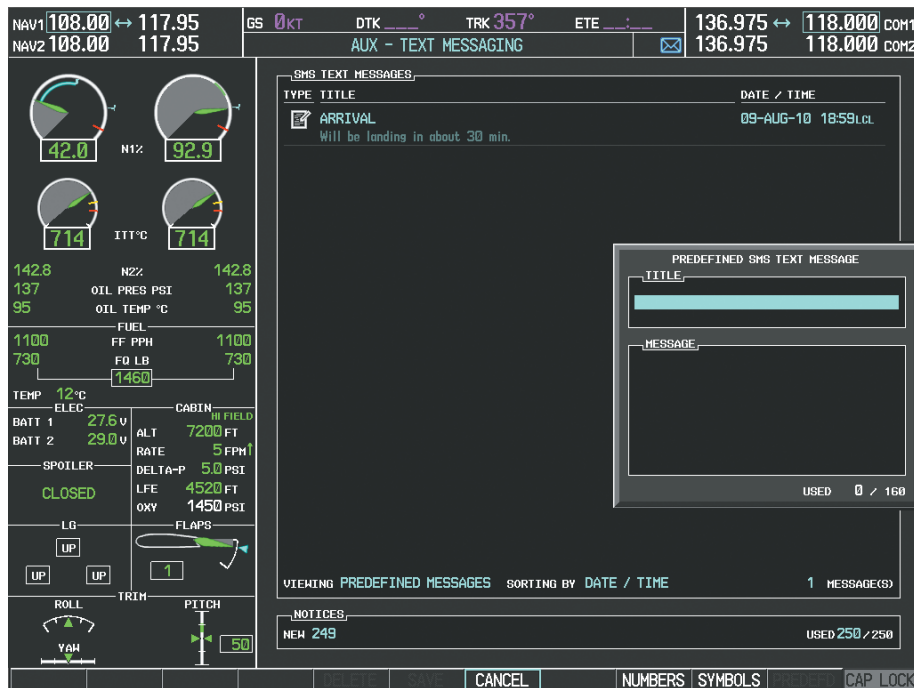

Figure 8-101 Composing a Predefined Message
c) Press the **ENT** Key. The PREDEFINED SMS TEXT MESSAGE Window is now displayed as shown in Figure 8-101.